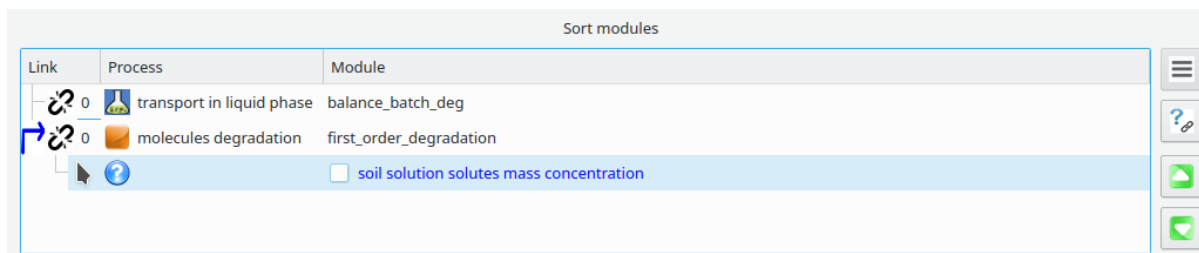

Figure 8: Ordered list of modules
- Once the modules have been ordered (see figure 8), a check box then appears in front of variable *soil solution solutes mass concentration* because this variable is
- The number placed after  and  icons is a link identifier between modules (0 in figure 8). Indeed, different iterations between different modules can be activated. Thus, this identifier allows to know which modules are involved in a given process of iterations between modules. The only limitation is that processes of iterations between modules cannot overlap. It means, if we consider iterations between modules MA and MB on the one hand, and modules MC and MD on the other hand, that the two following execution flows are allowed: